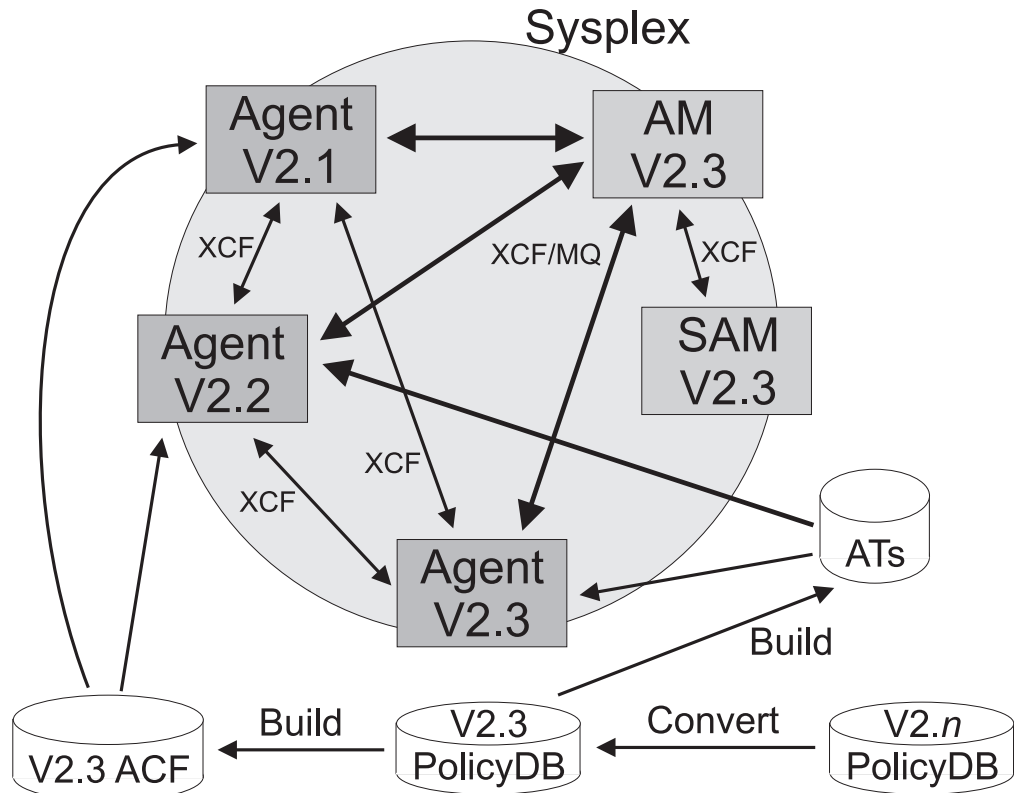

Figure 27. Coexistence of SA OS/390 1.3, SA OS/390 2.1, and SA OS/390 2.2
- SA z/OS systems can coexist with SA OS/390 2.1 and SA OS/390 2.2 systems within the same sysplex. Figure 27 illustrates this: It shows a sysplex with three automated systems and a separate automation manager (and its secondary).